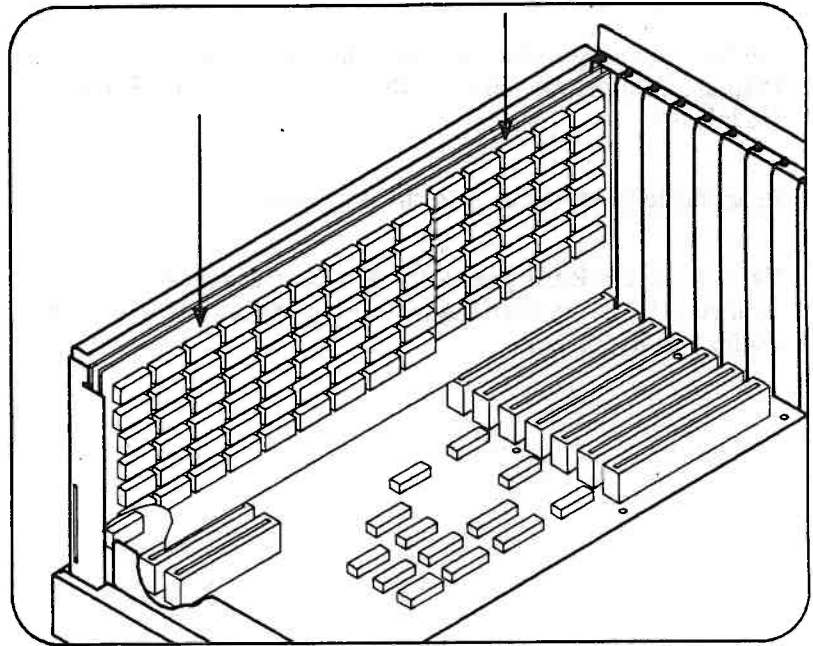

Figure 3-13. Inserting the Memory Expansion Board
14. Gently insert the Memory Expansion Board into the first dual connector expansion slot on the Bus Converter Board (Figure 3-13).